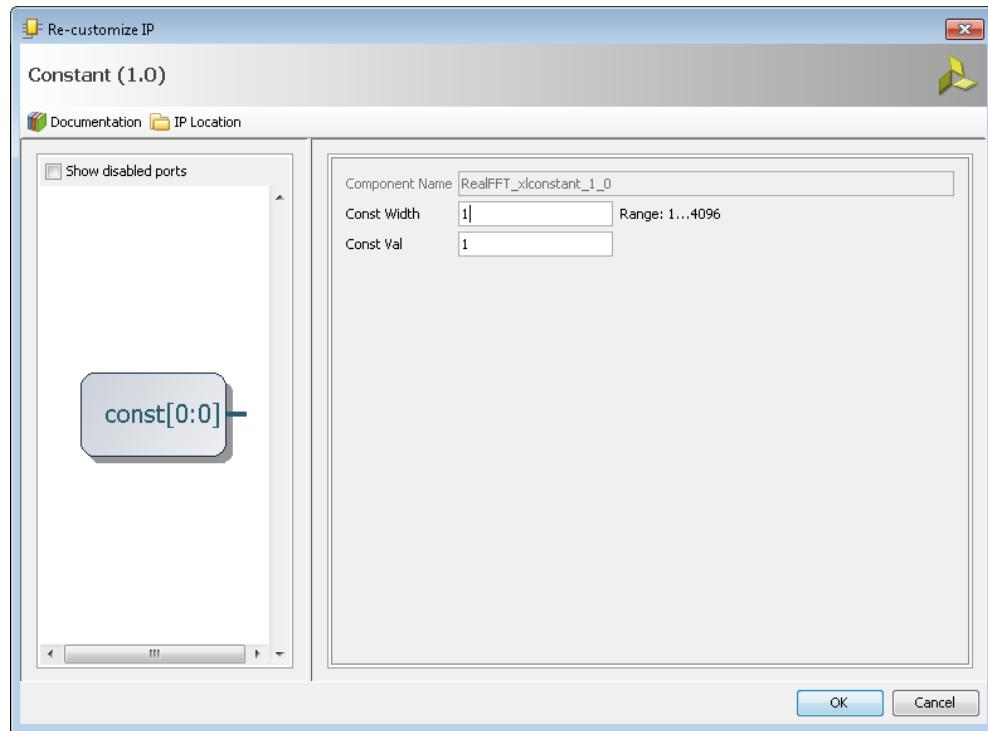

Figure 206 Constant IP Properties
- e. Double-click on Constant IP Symbol (Figure 206) and verify that the settings for Const Width and Const Val are both '1' then click OK to close Re-customize IP dialog.